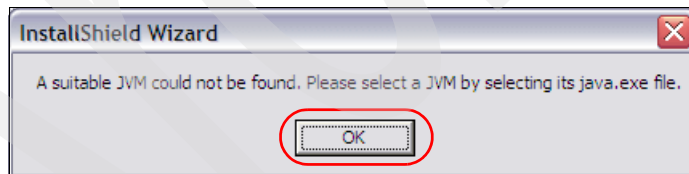
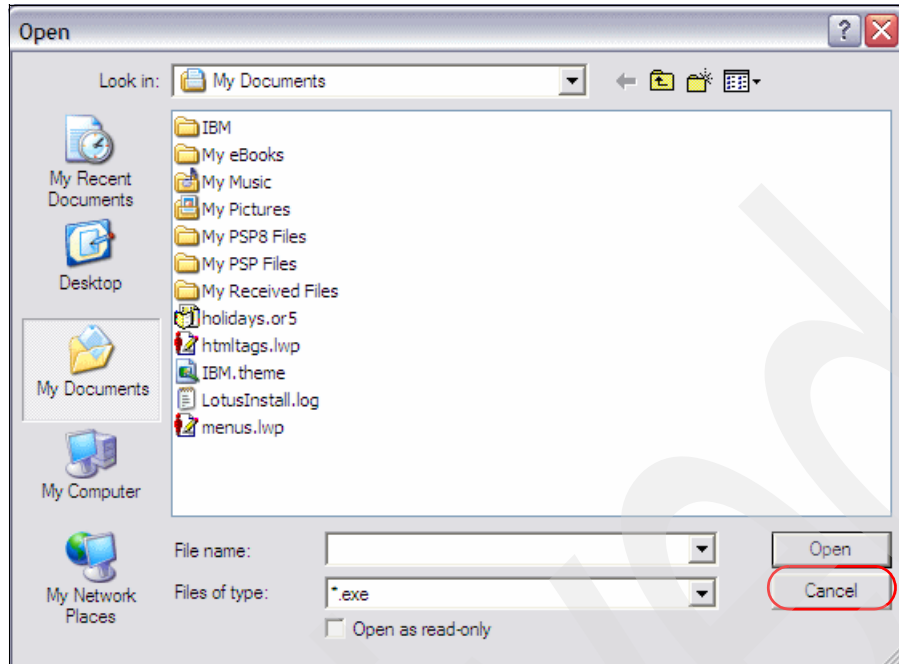

Figure A-23 JVM cannot be found
Figure A-24 Location to look for the JVM files
- ▶ *If V1 is not installed*, the wizard warns you that suitable JVM files are missing (see Figure A-23, where you have no choice but to click OK) and requests you to specify a location where it may find what it needs (see Figure A-24 on page 203). The best way is to cancel here.